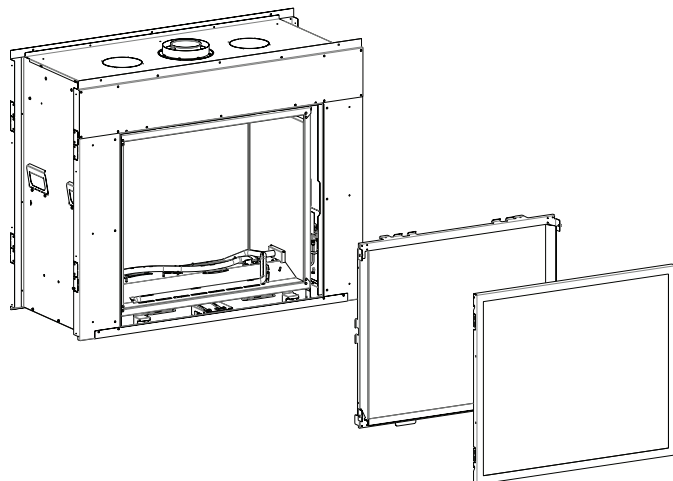

Figure 56
1. Remove the following items: **See Figure 56.**